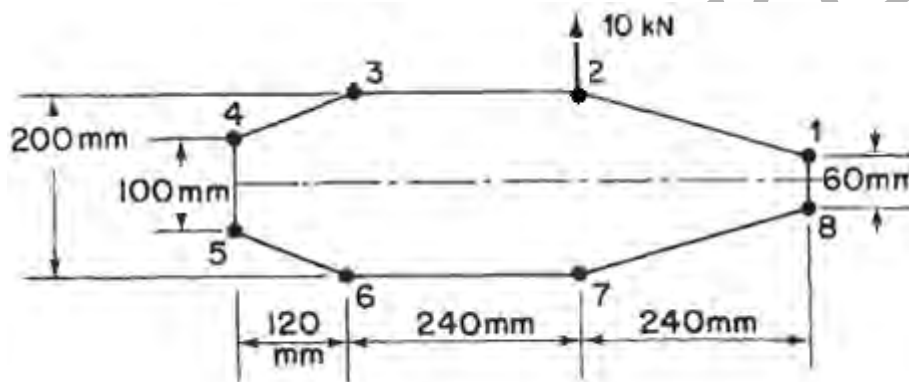

Figure 1:
1. The thin-walled single cell beam as shown in figure 1 has been idealized into a combination of direct stress carrying booms and walls carrying only shear stress. If the section supports a vertical shear load of 10 kN acting in the vertical plane through booms 2 and 7. Calculate the distribution of shear flow around the section. Each Boom area = 200 mm². [16]